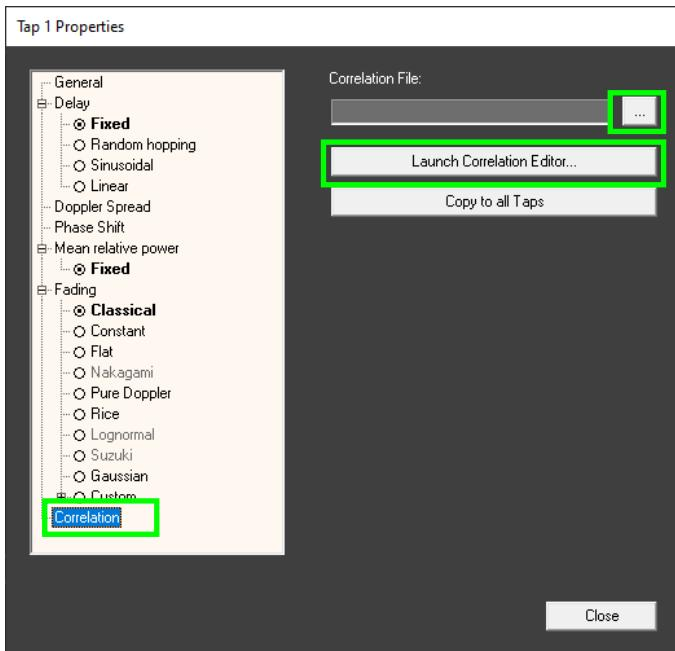
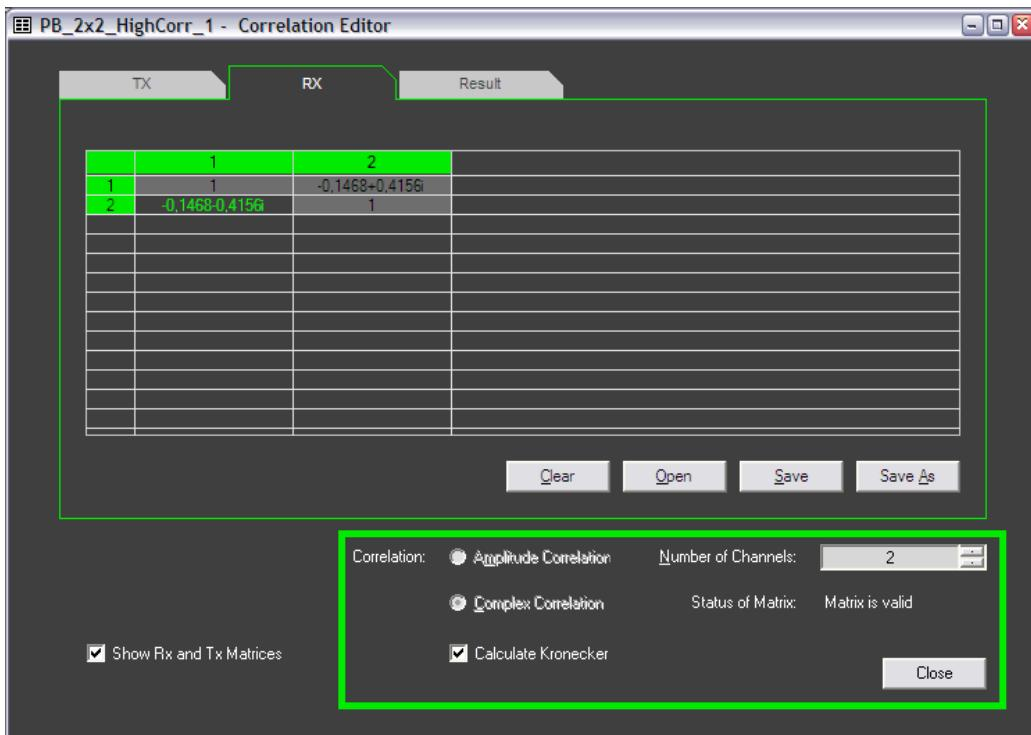

Figure 194 MIMO model tap properties dialog
Figure 195 Creating RX correlation matrix for MIMO model
The **Taps** tab is almost identical for all channel model types; the MIMO channel model tap properties include all the same properties as a uni-channel model does. Configure these as explained in section 7.7.2.2.2, page 150. Additionally, **Correlation** properties can be defined for the MIMO channel models, see Figure 194.
2. Click **Launch Correlation Editor**, see Figure 194. This opens the Correlation Editor application in the MIMO mode, as shown in Figure 195.
5. Next, map the correlation matrix with the tap by clicking the “...” button in the tap properties dialog, see Figure 194. This opens the load dialog.